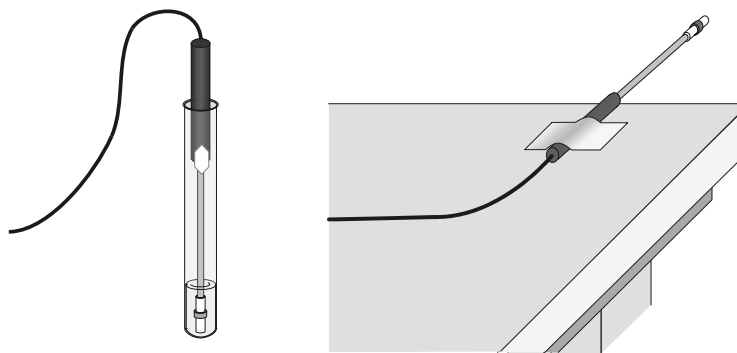

Figure 1
- Wrap Probe 1 and Probe 2 with square pieces of filter paper secured by small rubber bands as shown in Figure 1. Roll the filter paper around the probe tip in the shape of a cylinder.